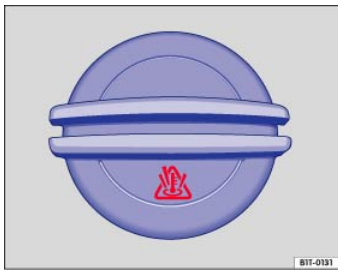

Fig. 202 Coolant expansion tank cap in the engine compartment.
- There is a symbol on the cap of the engine coolant expansion tank ⇒ Fig. 202.